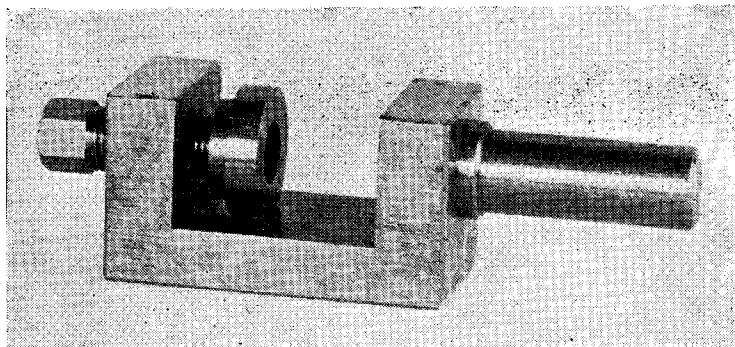

Fig. 1. The finished holder
The holder itself is illustrated in Fig. 1, and in Fig. 2 is shown fixed to one of the tools in the lathe turret and with the indicator attached. As will be seen, the holder consists of a body portion (A), carrying a short spindle (B) for the attachment of the indicator clamp, and at the other end a clamp-screw (C) with a swivelling-head is fitted.